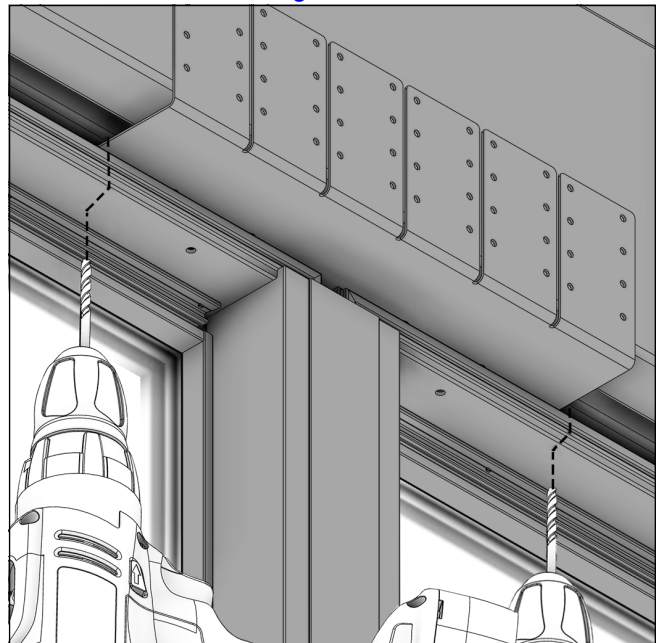

Figure 24 Direct Glaze
16. For **Direct Glaze** product, measure 1/2" off the interior face of the frame. All holes regardless of unit type will align with the existing through jamb holes. Drill the marked locations, drill through the frame with a 3/16" drill bit. Once all holes are drilled, fasten the frame to the RO with the provided #8 x 3" screws using a T20 star bit. Additional shimming may be required. DO NOT OVERTIGHTEN. See Figure 24